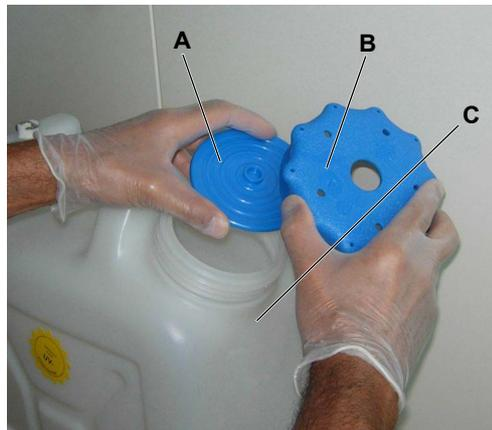

Fig. 7-11 Seal disk and cap
- 8 Mount the special seal disk and the cap. Refer to Fig. 7-11 "Seal disk and cap",  7-23.